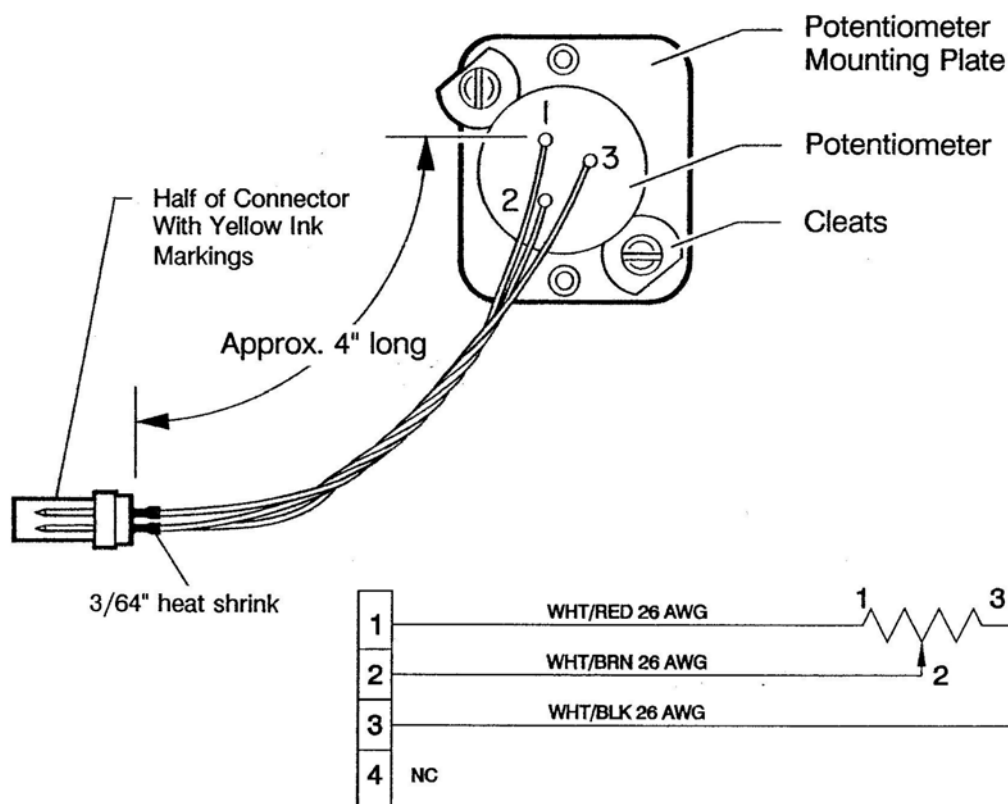

Figure 4-15 Wired wrist roll potentiometer attached to mounting plate
18. Grease the bore in the actuator body (25) with Lubriplate grease and insert the tail of the gripper cylinder assembly into the bore through all seals so that bearing (19) seats properly in the actuator body.
19. Install the motor reaction ring and ball bearing by slipping over the hub of the bearing retainer ring (47).
20. Set spider coupling (50) inside the reaction ring mating it with the tangs of pinion (49).
21. Install O-rings (23),(24), and (44) in the front face of the actuator body.
22. Set the motor rotor inside the reaction ring so that the tangs of the rotor engage and mate with the slots in the spider coupling (50). Place the rotor thrust washer over the rotor pintle.
23. Place dowel pins (6) into the actuator body (25).
24. Align all assembled parts, (motor rotor with the pintle, output shaft with bore in front cover plate, and dowel pins) and assemble front plate to case. Secure cover plate using fasteners (2) around the motor cavity and fasteners (1) around the perimeter of the case.
26. Heat rear plate (38) and install ball bearings (41),(42).
27. Attach potentiometer (29) to mounting plate (31) using cleats (30). Wire the potentiometer and connector as shown in Figure 4-15.